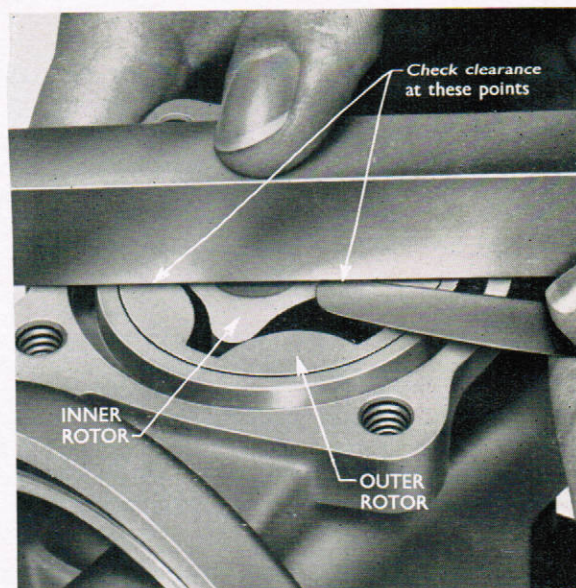

Fig. 8
5. Place a straight edge across the face of the pump body and check the clearance between the face of the rotors and the straight edge (see Fig. 8). This should not exceed 0.005 in. (0.127 mm.). If this clearance is excessive, the face of the pump body can be carefully lapped on a flat surface.